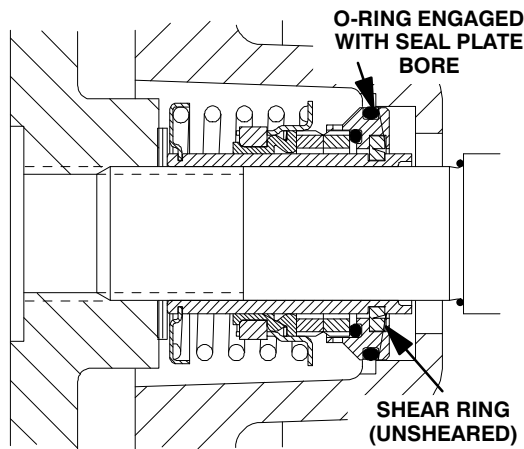

Figure 6. Seal Partially Installed
Clean and inspect the impeller as described in **Impeller Installation and Adjustment**. Install the full set of impeller shims (34) provided with the seal, and screw the impeller onto the shaft until it is seated against the seal (see Figure 6).